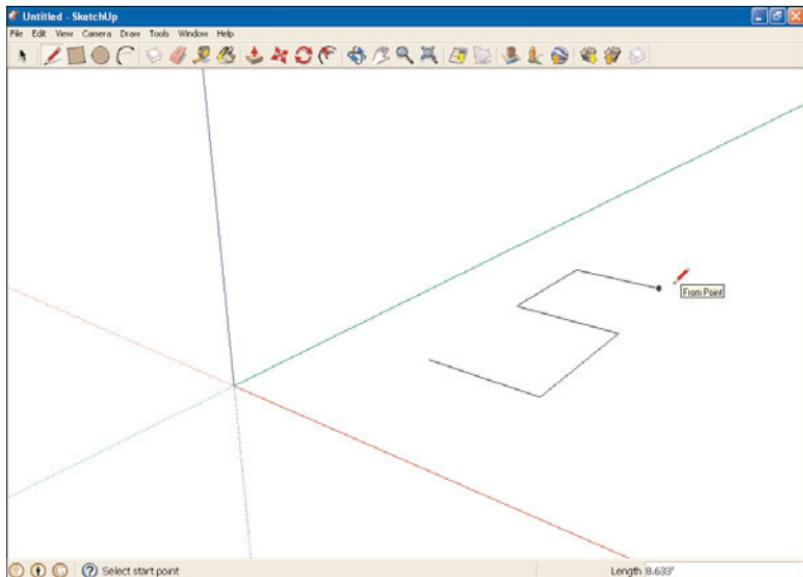

FIGURE 3.2 Drawing a multiline figure.
6. Press **Esc** to make SketchUp stop drawing edges. SketchUp will stop drawing edges, and your multiline figure is complete, as shown in Figure 3.2.